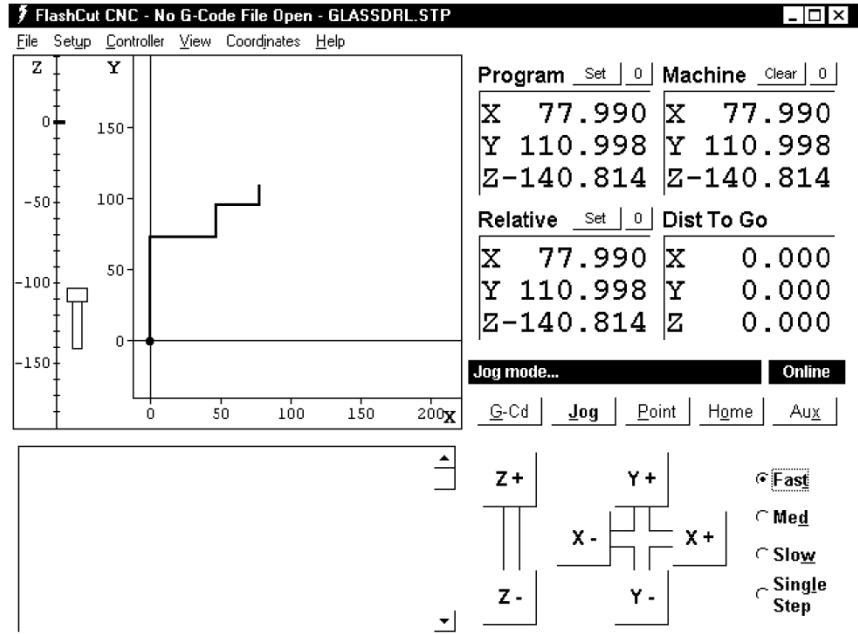

Figure 5: FlashCut window after jogging to nick position
2. Using the *jog* controls in the FlashCut program as shown in Figure 5, *use (+y) first, then use the remaining jog controls to position the drill bit near the surface of the wafer in a region that can be nicked without hurting the final device. Place a drop or two of milling fluid on the wafer beneath the bit.*
2. Using the *jog* controls in the FlashCut program as shown in Figure 5, *use (+y) first, then* use the remaining *jog* controls to position the drill bit near the surface of the wafer in a region that can be nicked without hurting the final device. Place a drop or two of milling fluid on the wafer beneath the bit.